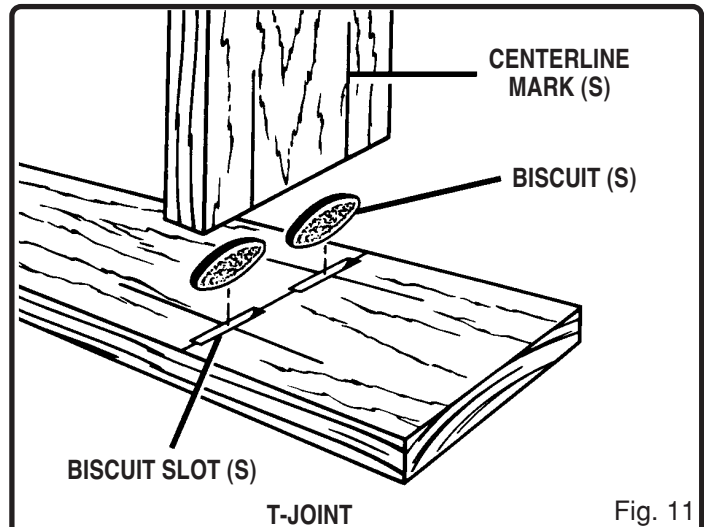

Fig. 11
A T-joint is used when the end of a board is joined to the face of another board as shown in figure 11. Attaching shelves to bookcases and inner support braces to frames are typical applications. Actual cutting of a T-joint is as simple as any other cut. However, it is critical that you mark the centerlines, mark the intersection points for each slot, and cut each slot correctly. See Figure 11.
- Finally, disassemble the workpieces and place a bead of glue in each slot. Also, spread a bead of glue over the entire surface of the joint. Reinsert the biscuits and assemble the workpieces. See Figure 11.